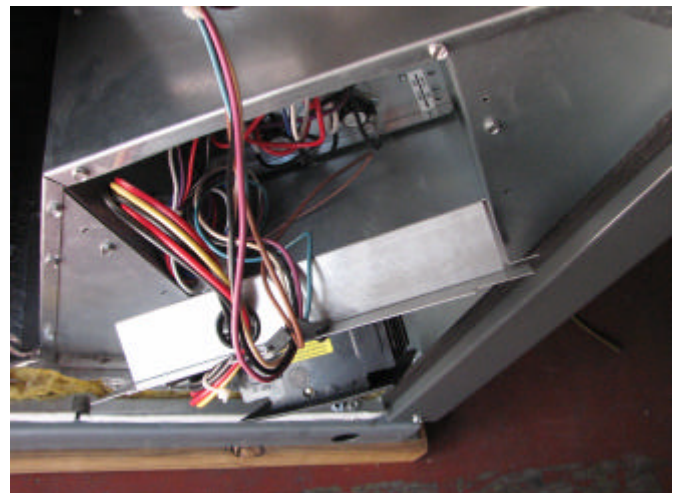

Figure 2
6. For 480V three phase WGO kits only, remove the contactor from the WGO mounting bracket, leaving the wires connected. Attach contactor to rear mounting plate as shown in Figure 2.